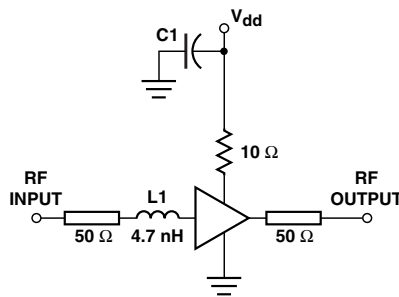

Figure 10. Test Circuit for 2 GHz.
3. Guaranteed specifications are 100% tested in the circuit in Figure 10 in the Applications Information section.
The circuit shown in Figure 10 is used for 100% RF testing of Noise Figure and Gain. The input of this circuit is fixed tuned for a conjugate power match (maximum power transfer, or, minimum Input VSWR) at 2 GHz. Tests in this circuit are used to guarantee the NF_{test} and G_{test} parameters shown in the Electrical Specifications table.
The test circuit in Figure 10 illustrates a suitable method for bringing bias into the MGA-87563. The bias connection must be designed so that it adequately bypasses the V_{dd} terminal while not inadvertently creating any resonances at frequencies where the MGA-87563 has gain.
The input of the MGA-87563 is partially matched internally to 50Ω . The use of a simple input conjugate matching circuit (such as shown in Figure 10 for 2 GHz), will lower the noise figure considerably. A significant advantage of the MGA-87563’s design is that the impedance match for NF_o (minimum noise figure) is very close to a conjugate power match. This means that a very low noise figure can be realized simultaneously with a low input VSWR. The typical difference between the noise figure obtainable with a conjugate power match at the input and NF_o is only about 0.2 dB.